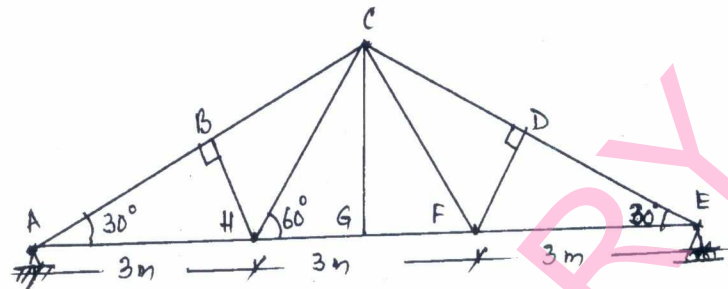

Fig Q3
- 3 Design the top chord member and bottom chord member including connections to gusset using bolts of class 4.6. Force in the member under service load conditions are presented in the following table. Refer Fig Q3 for truss. (40 Marks)